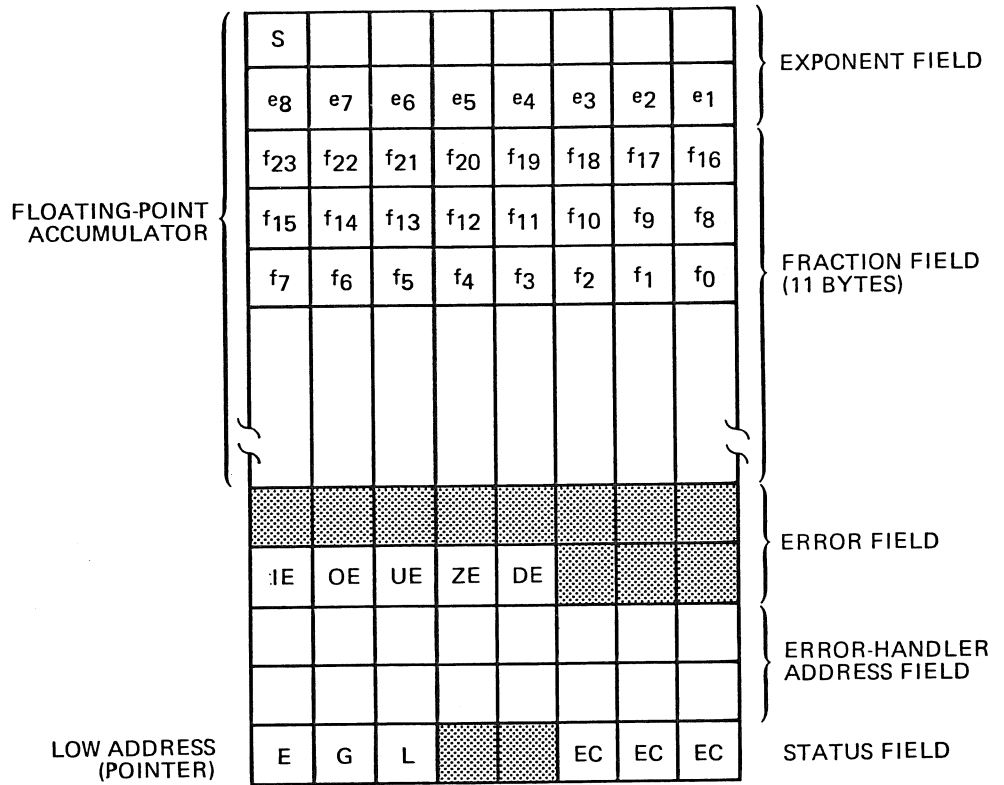
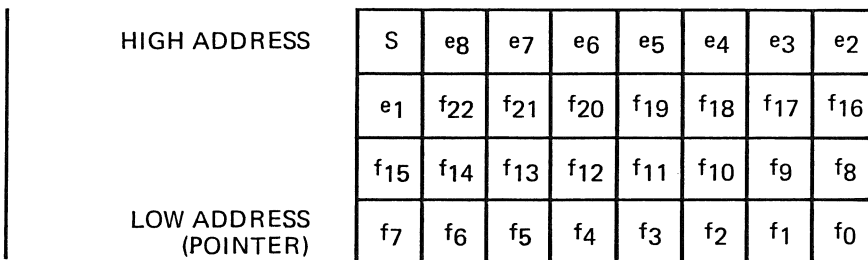

Figure A-1. Floating-Point Record Format
Figure A-2. Floating-Point Number Format in Memory
The Floating-Point Record is allocated as shown in Figure A-1.
- | The Fraction and Exponent fields shown in Figure A-1 actually contain an unpacked version of the format assumed for 32-bit floating-point numbers in memory (Figure A-2).
- | The f_{23} (normalization) bit shown in Figure A-1 is implied in the packed format; $f_{23} = 0$ if the Exponent field is zero and otherwise $f_{23} = 1$. In both figures, 's' is the 'sign' bit.
Single-precision formats in the Floating-Point Accumulator and 8080 memory are as shown in Figures A-1 and A-2. The three fields within these formats are: